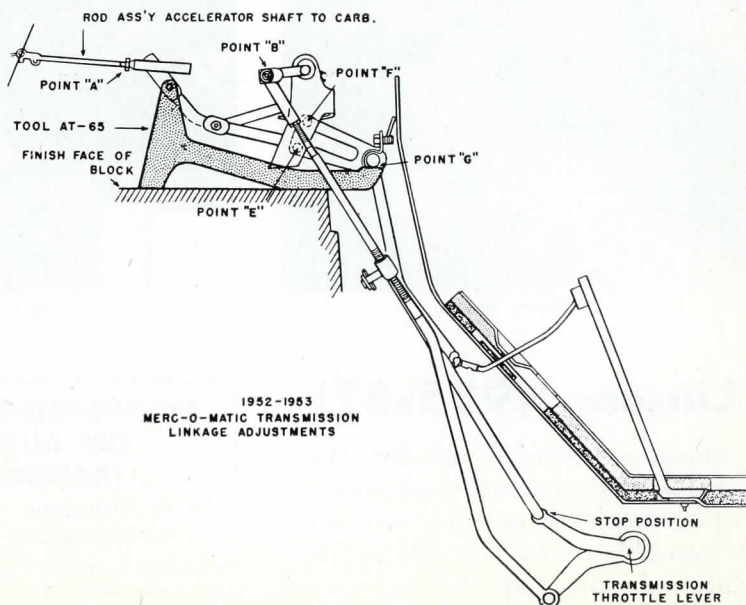

Figure 35
1. Disconnect clevis pin at point "B", and loosen two bolts at points "E" and "F". Position Linkage Gauge Tool (AT-65) as shown in Fig. 35. Adjust accelerator shaft so it contacts Tool surfaces at point "G", and tighten two bolts points "E" and "F".